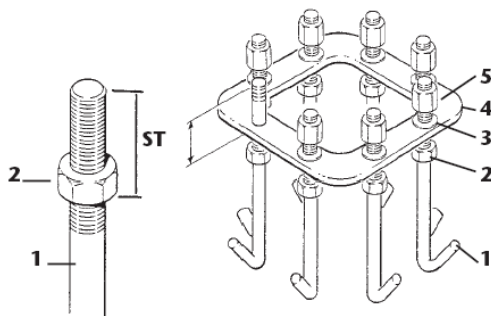

fig.17
1. Screw tight the low nuts **2** on the log bolts **1**, leaving a threaded part showing which corresponds to the level **ST** (fig.17) (for the protusion **ST**, see “Fixing systems” on page 12). Do the same operation on all 8 (eight) log bolts.